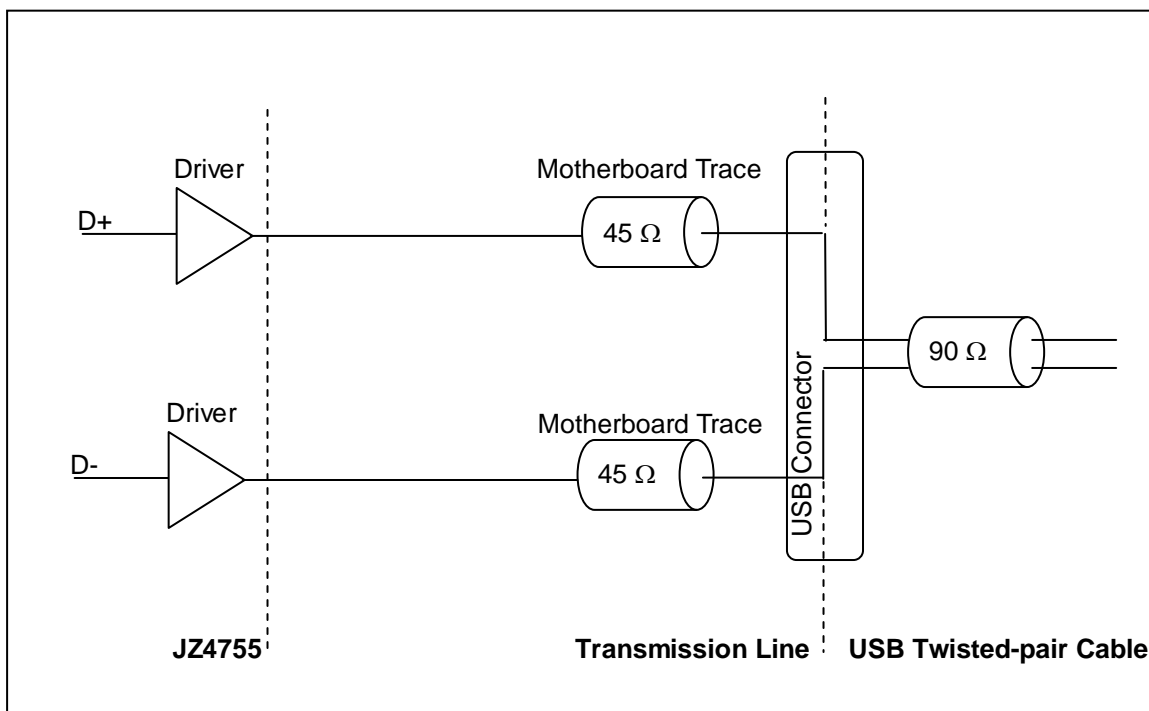

Figure 6-1 Recommend USB Device Schematic
- The trace impedance for the D0± and D1± signals should be $45\ \Omega$ (to ground) for each USB signal D+ or D-. This may be achieved with 9-mil-wide traces on the motherboard based on the stack-up recommended in Figure 6-1. The impedance is $90\ \Omega$ between the differential signal pairs D+ and D-, to match the $90\ \Omega$ USB twisted-pair cable impedance. Note that the twisted-pair characteristic impedance of $90\ \Omega$ is the series impedance of both wires, which results in an individual wire presenting $45\ \Omega$ impedance. The trace impedance can be controlled by carefully selecting the trace width, trace distance from power or ground planes, and physical proximity of nearby traces.